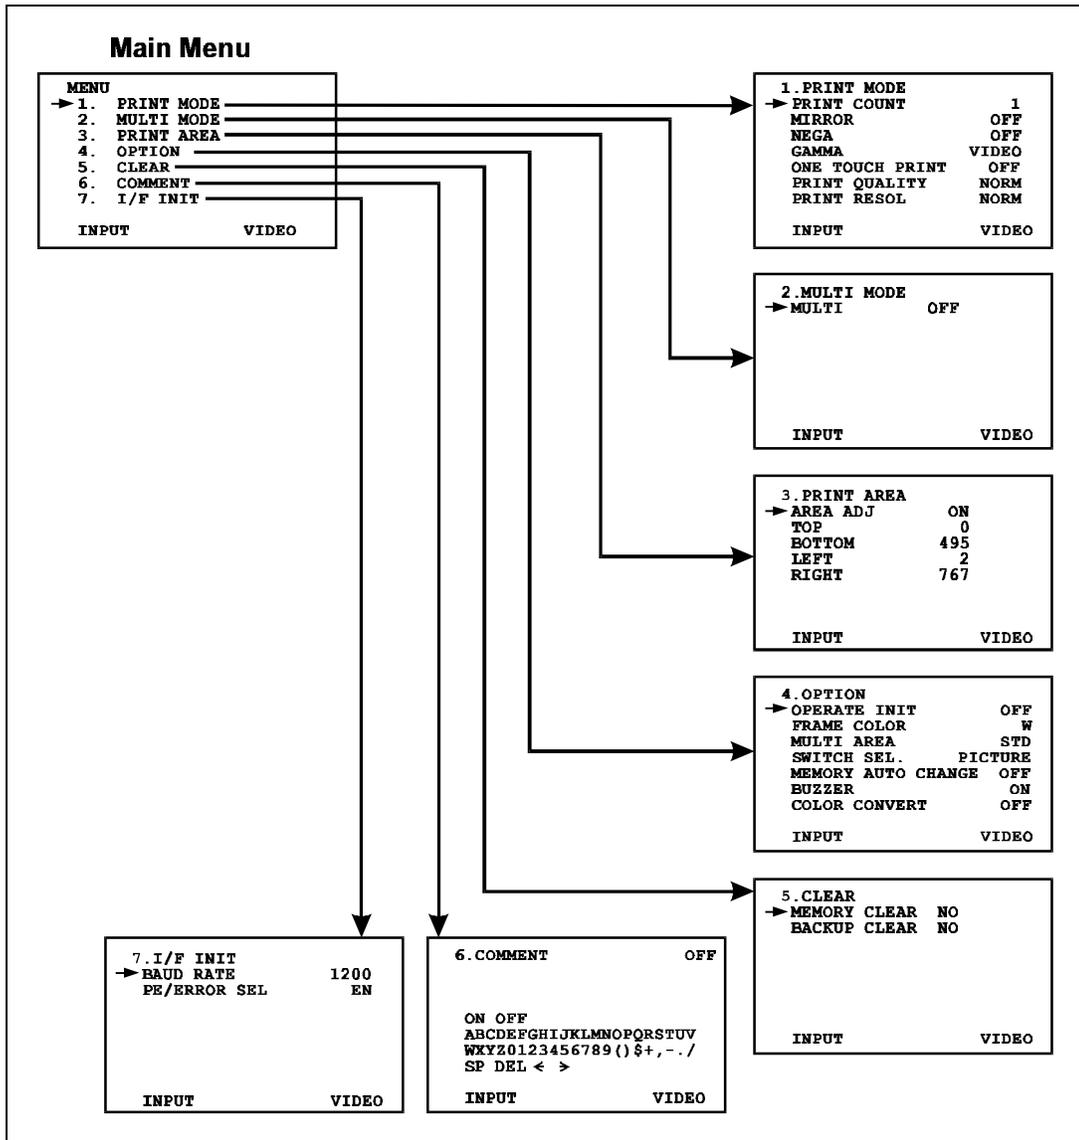

Figure 6-26. Correct TX-2000 Default Menu Settings
- Verify that all menu settings match Figure 6-26. To view a sub-menu, press the MENU button on the front control panel until the arrow points to the desired sub-menu. Then press the SUB MENU button.